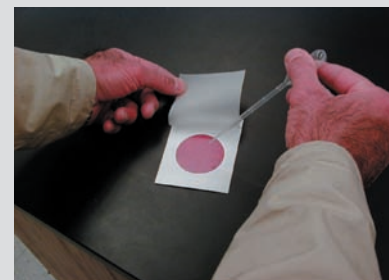

Figure 6-1. Use a 1-ml pipette to transfer the sample to the Petrifilm plate.
4. Pipette exactly 1 ml of liquid from your first sample to the appropriate plate. The 1 ml mark is at the top of the stem of the pipette, before the bulb. Lift up the cover sheet on the plate, and gently release the water sample into the center of the pink circle. Then slowly roll the top cover back down onto the sample, which will spread it somewhat. Gently pick up and tilt the plate from side to side to distribute the water evenly. Discard the first pipette. Keep the sample plate flat. You may stack as many as 20 of these without risk of damage or cross contamination. Pipette the remainder of your water samples. (*Figure 6-1*)